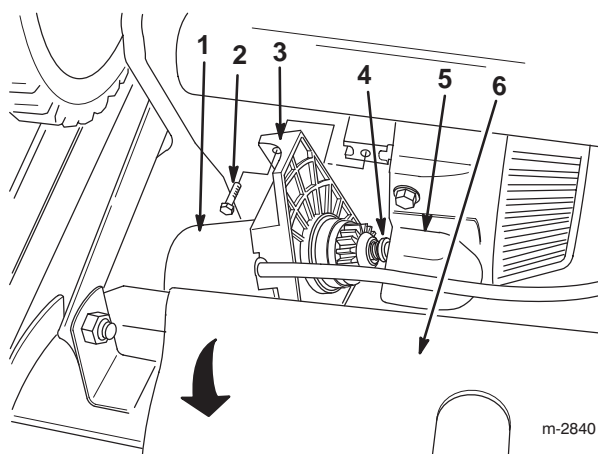

Figure 6
3. Pull the bottom cover down below the axle and remove the lower starter motor mounting bolt (Fig. 6).
4. Slide the starter motor away from the pinion cup, and remove the starter motor and the attached switch assembly from the snowthrower (Fig. 6).
2. Push gently on the pinion stop as necessary and insert the pinion into the pinion cup (Fig. 6).
4. Install the bottom cover back into its original position above the axle (Fig. 6).